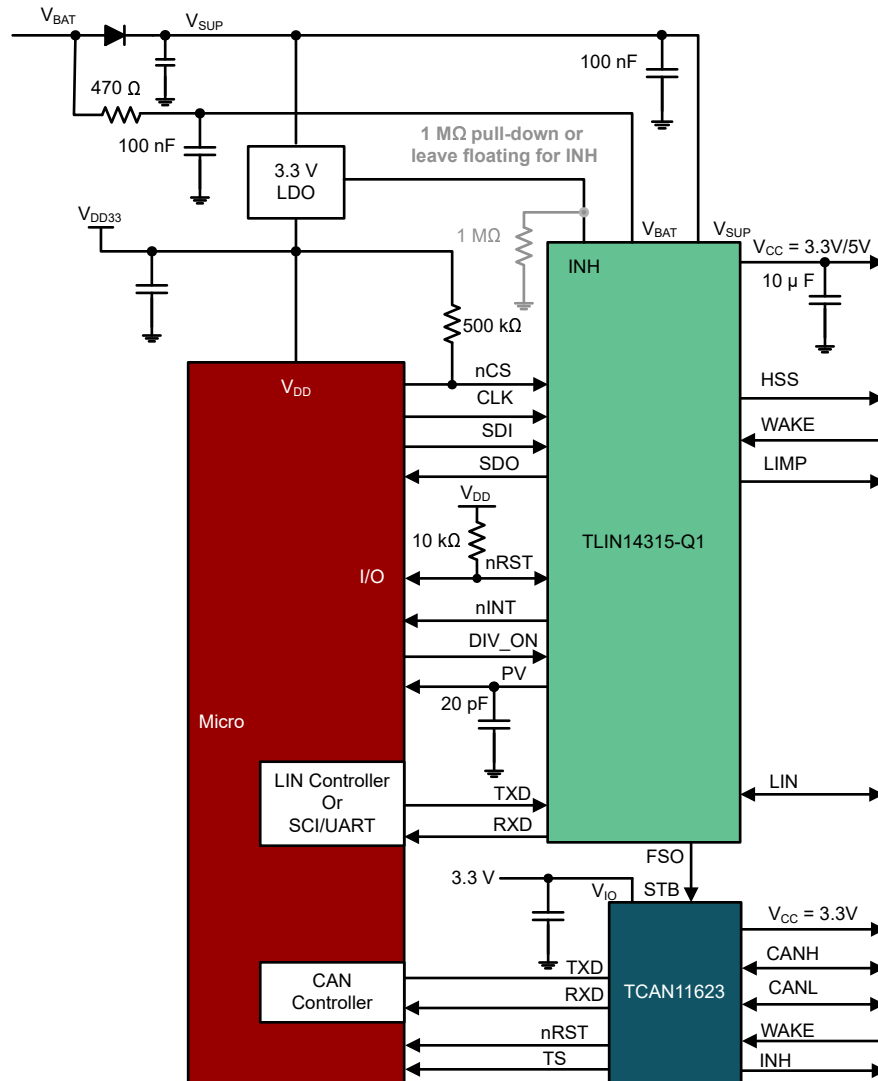

**Figure 8-23. Channel Expansion: CAN SBC**
- One LIN and one CAN FD transceiver with two LDO outputs by using a CAN FD SBC (see Figure 8-23)